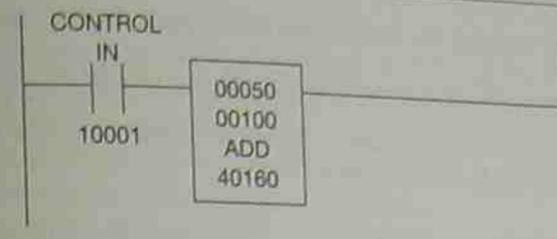

Figure 15-17 Add Function Block for Gould 984
In Figure 15-17, when 10001 is closed, value 1 (50) is added to value 2 (100), and the result (150) is stored in register 40160.